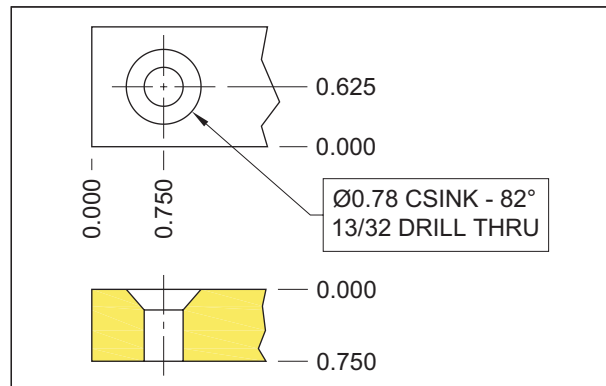

Figure 26-23
*Figure 26-23* illustrates an example of countersink data, as shown in a typical drawing.